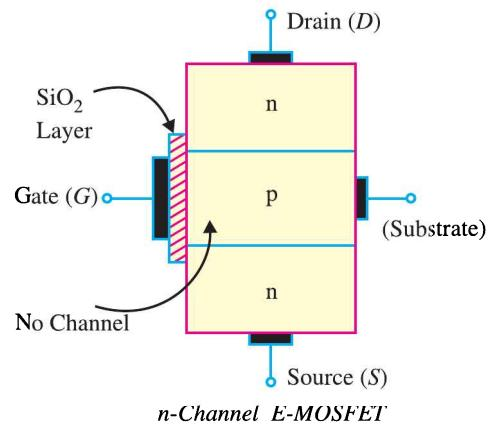

Fig. 19.44
**2. E-MOSFET.** Fig. 19.44 shows the constructional details of *n*-channel *E-MOSFET*. Its gate construction is similar to that of *D-MOSFET*. The *E-MOSFET* has no channel between source and drain unlike the *D-MOSFET*. Note that the substrate extends completely to the  $\text{SiO}_2$  layer so that no channel exists. The *E-MOSFET* requires a proper gate voltage to *form a channel* (called induced channel). It is reminded that *E-MOSFET* can be operated *only* in enhancement mode. In short, the construction of *E-MOSFET* is quite similar to that of the *D-MOSFET* except for the absence of a channel between the drain and source terminals.